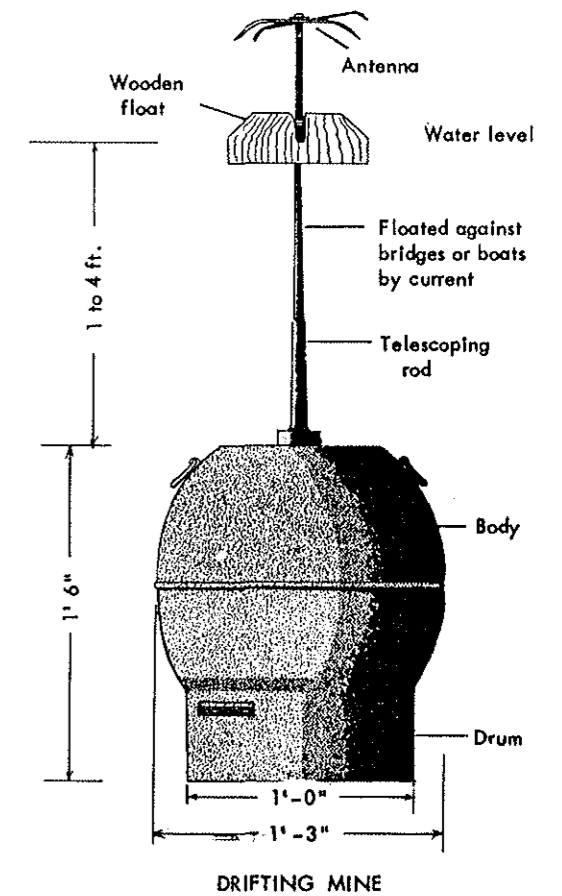

Figure 36.
4. Drifting contact mines (fig. 36) are employed to destroy enemy floating bridges and fixed bridge piers. They vary in size and explosive content, the normal charge being from 25 to 100 pounds.